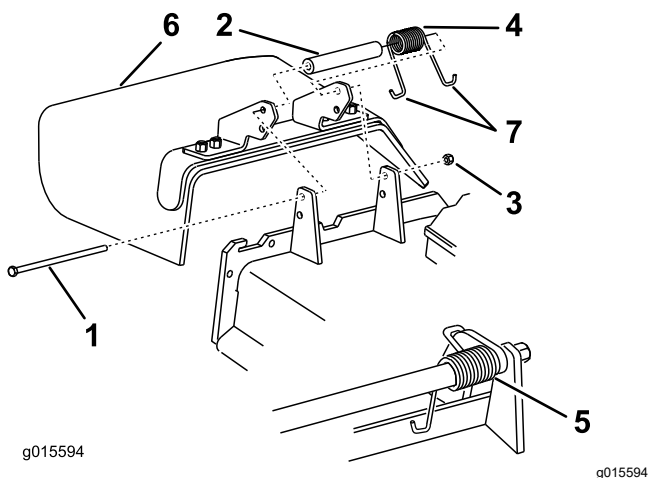

Figure 103
1. Remove the locknut, bolt, spring, and spacer holding the deflector to the pivot brackets (Figure 103).
Note: Make sure that 1 J-hook end of spring is installed behind deck edge before installing the bolt as shown in Figure 103.
6. Place 1 J-hook end of the spring around the grass deflector (Figure 103).